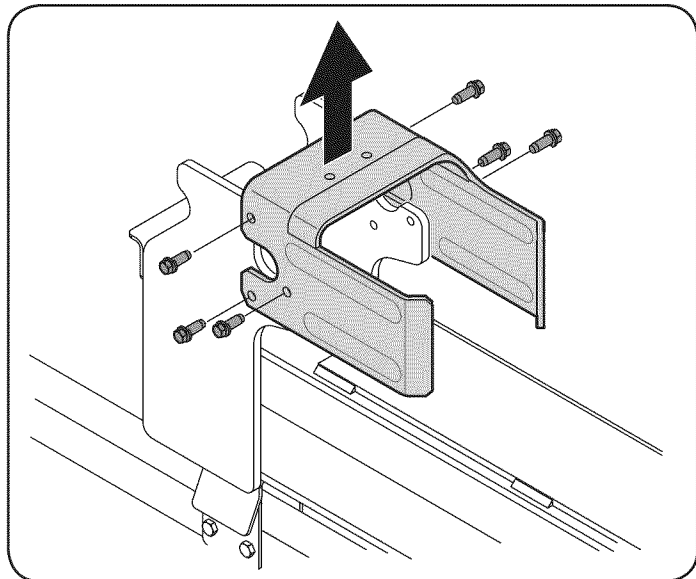

Figure 4
2. Disconnect the dislodger from the beam weld bracket by removing the six hex screws. See Figure 4.